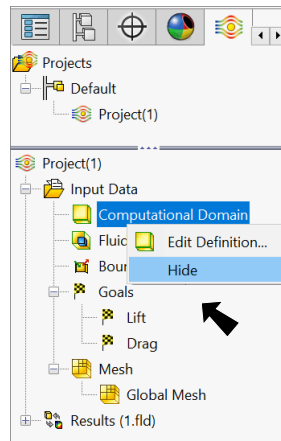

Fig. 17
Step 1. Right click **Computational Domain** in Flow Simulation tree and click **Hide**, **Fig. 17**.